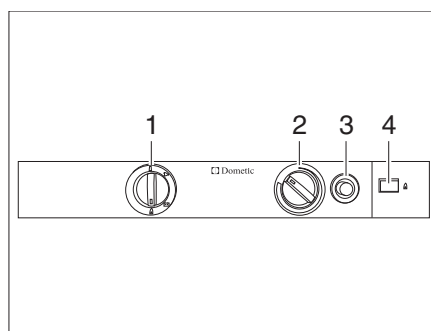

Fig. 332 Operating controls for the refrigerator (Dometic 8 series)
- Set the energy selector switch (Fig. 332,1) to "🔥".
- Press the control knob (Fig. 332,2), turn it to the highest level and hold it down. Wait until gas gets into the burner.
- Press the gas ignition button (Fig. 332,3) and keep it pressed. Ignition will take place automatically.
- Keep gas ignition button (Fig. 332,3) pressed down until the flame indicator (Fig. 332,4) becomes green and then release it.
- Keep the control knob (Fig. 332,2) pressed for another 10 to 15 seconds, then release it.
- Set the energy selector switch (Fig. 332,1) to "⏏".
- Use the control knob (Fig. 332,2) to adjust the refrigerating temperature.